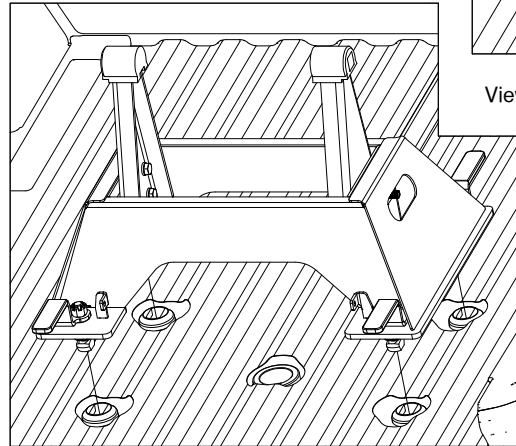

Figure C1: View of unlatched base.
1. **Place Base.** Remove the latch pins from each side of the base and rotate the handles out, see Figure C1. Place the base over the attachment points and carefully lower it until the latch cams pass through the floor and the base rests flat against the top of the attachment points.